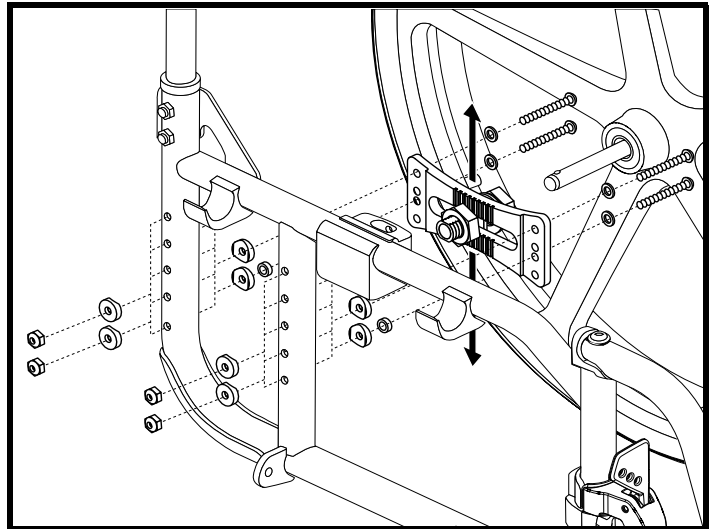

Figure 17. Drive Wheel Height Adjustment
2. Remove the hardware that fastens the axle bracket to the frame. See figure 17.